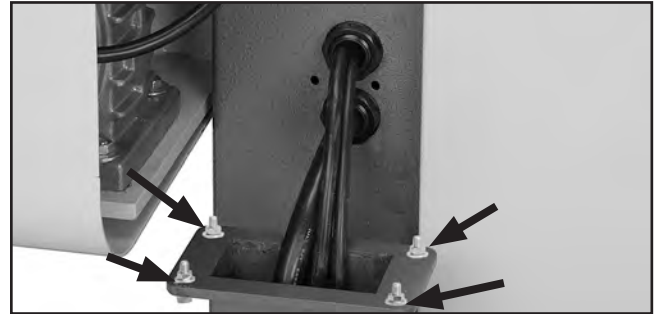

Figure 16. Location of control panel fasteners.
6. Close sanding motor cover and secure with knob bolts and flat washers removed in **Step 4**, then secure top cover with (2) M6-1 x 12 knob bolts.
7. Remove hex bolts, flat washers, and hex nuts from control panel support arm, as shown in **Figure 16**.